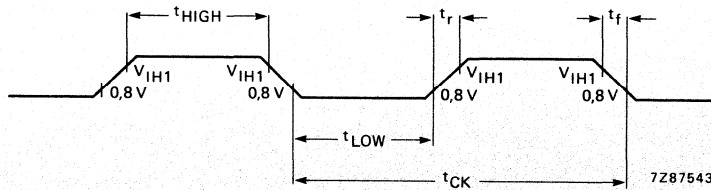

Fig. 20 External clock drive XTAL 2 (see Table 9).
1.  $1/t_{CK} = 3,5$  to 12 MHz (see Fig. 20 and Table 9).
Table 9 External clock drive XTAL 2 (see Fig. 20)